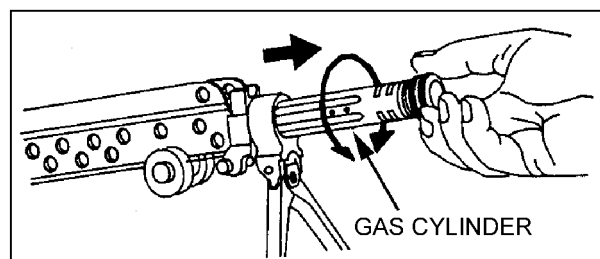

Figure 1-17. Removal of the gas cylinder group.
f. **Removing the Gas Cylinder Group.** To remove the gas cylinder from the receiver (Figure 1-17), grasp the gas cylinder at the top of the bipod legs, turn it to the left or right to release the locking spring, and then pull it away from receiver.